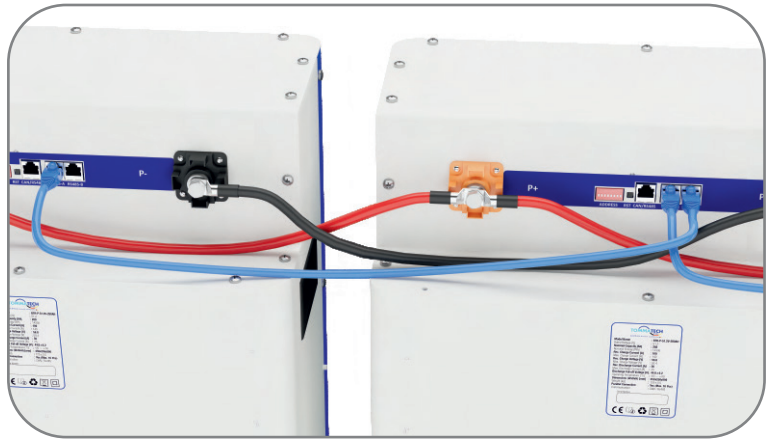

Figure 7.11
**STEP 11:** Connect the RJ45 communication cables of the modules from the RS485B port of the first selected battery to the RS485A port of the next battery in sequence, from B to A, for each battery as shown on page 9. (Figure 7.11)